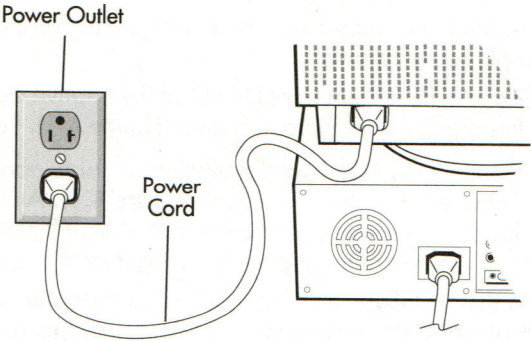

Figure C.1
5. Connect one end of the power cord to the MultiSync FE monitor and the other end to the power outlet (**Figure C.1**).